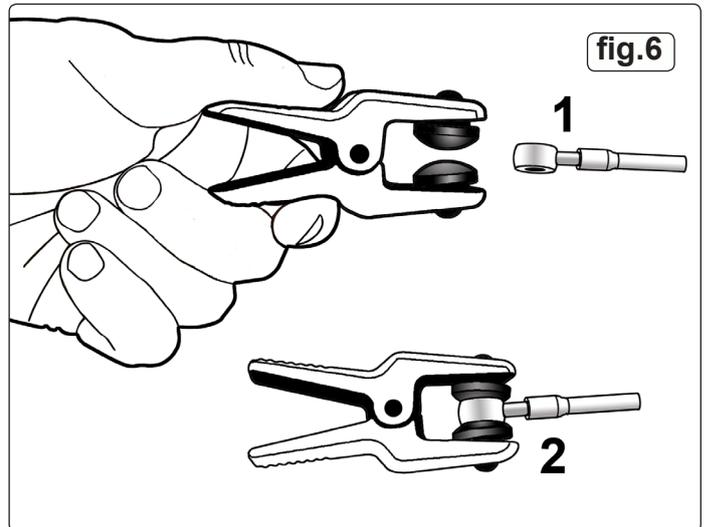

fig.6
**4.5 Clamp (Banjo Fitting)** - Seal both sides of banjo fuel fitting as indicated in fig.6.